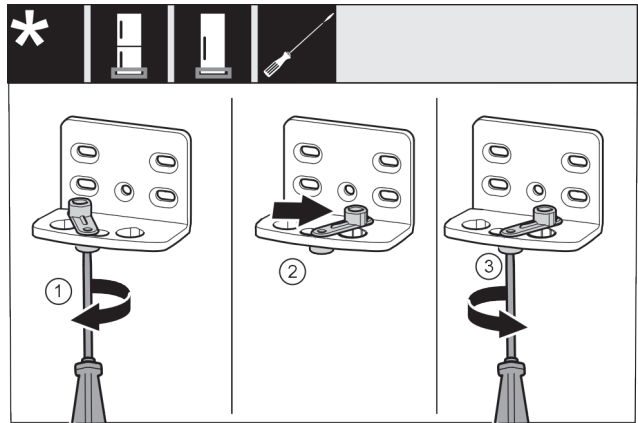

Fig. 19 \*
- ▶ Use screwdriver to loosen the screw Fig. 19 (1).\*
- ▶ Lift the door closing aid Fig. 19 (2) and turn 90° clockwise in the hole.\*
- ▶ Tighten screw Fig. 19 (3) with screwdriver.\*